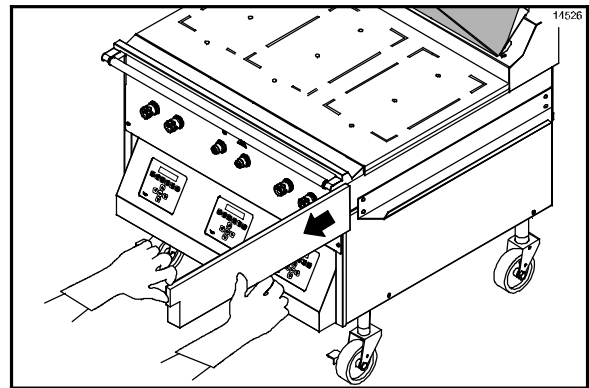

Figure 70
42. Remove and empty the grease pans. (See Figure 70.)